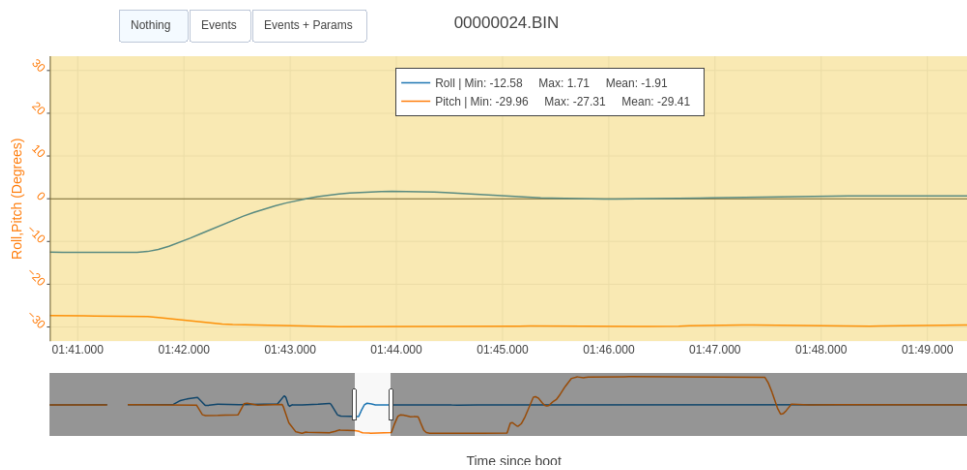

Figure 4: Waypoint 2 to Waypoint 3 (Pitch, Roll vs Time)
- It can be observed from fig. 4 that the mean roll angle is approx. 0° and mean pitch angle is about -29.41° (pitching down). During this part of the mission there is zero wind.